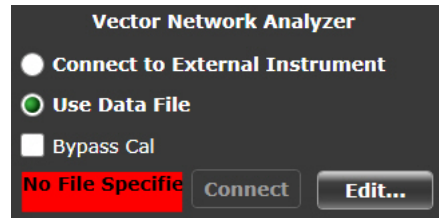

Figure 51 Use Data File Option for Vector Network Analyzer
- 11 Instead of connecting to the Vector Network Analyzer, you can also use the data file. Select the **Use Data File** check-box and the **Edit...** button appears, as shown in Figure 51.